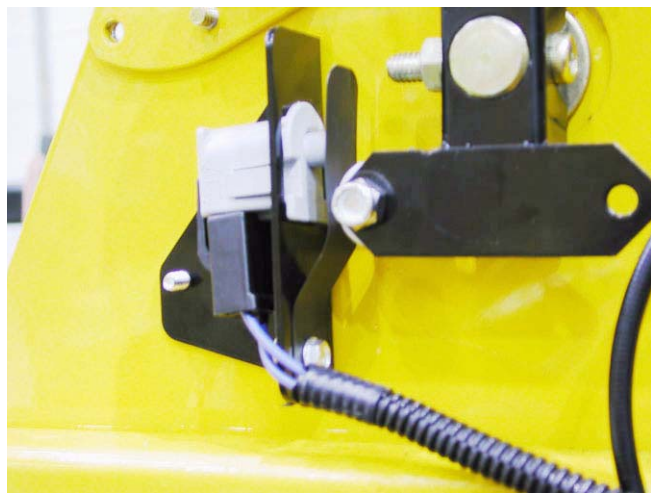

Figure 10.9
10.9. Each reverse switch is located "down-stream" of the PTO switch. They are normally closed (N.C.). If the contacts of both switches are opened (lap bars in non-forward position) power is interrupted to the PTO clutch, stopping the blades. See Figure 10.9.